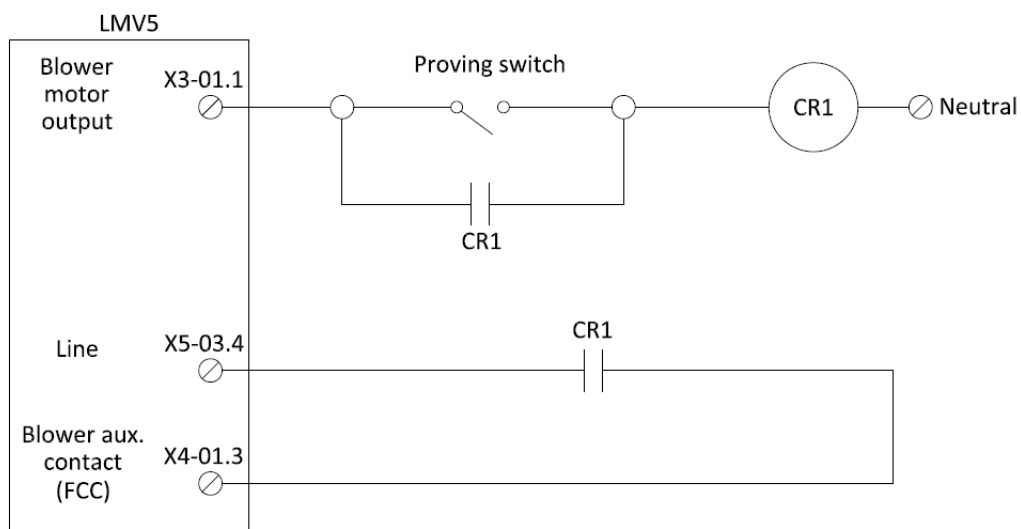

Figure 19: LMV5 Purge Proving Wiring Diagram
1. Wire the LMV5, proving switch, and two-pole relay as shown below in Figure 19.